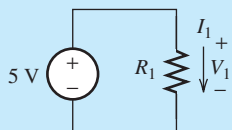
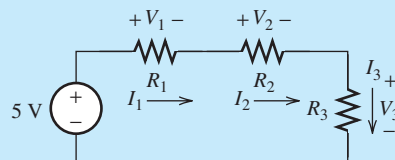
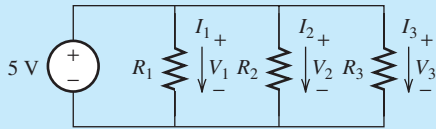

FIGURE 3.15 The basic electric circuit for Example 3.4.
FIGURE 3.16 The circuit wired in series.
FIGURE 3.17 The circuit wired in parallel.
Figure 3.15 shows a basic electric circuit with a power supply driving a single load. Two configurations are provided for study, series (Figure 3.16) and parallel (Figure 3.17). Assuming that $R_1 = 10 \Omega$, $R_2 = 20 \Omega$, and $R_3 = 30 \Omega$:
- Using the circuit in Figure 3.15, find V_1 and I_1 .
- For the circuit in Figure 3.16, find V_1 , I_1 , V_2 , I_2 , V_3 , and I_3 .
- For the circuit in Figure 3.17, find V_1 , I_1 , V_2 , I_2 , V_3 , and I_3 .